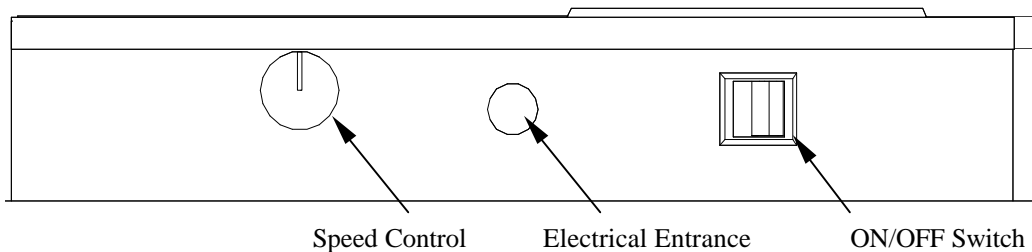

Figure 9
- Step 4.** Remove the six screws to free the venturi ring and remove the motor/blower assembly from the motor plate.(see Figure 9)
Airflow/speed is adjusted by rotating the knob (see Figure 9):